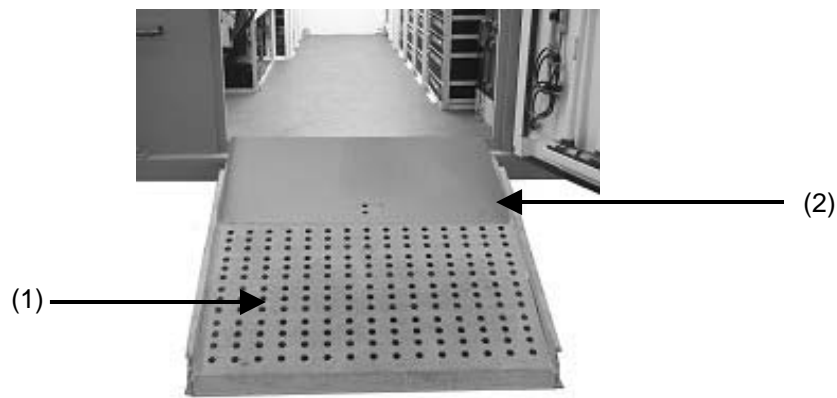

Figure 2-9. 4'x4' ramp attached
1. The 4' x 4' ramp (1) is stored inside container, directly in front of racks K and L. Open personnel door, unlatch ramp and remove (Fig. 2-9).
3. Add threshold plate (2) (Fig. 2-9) between the end of the ramp and the door jam of the container when the door is open.